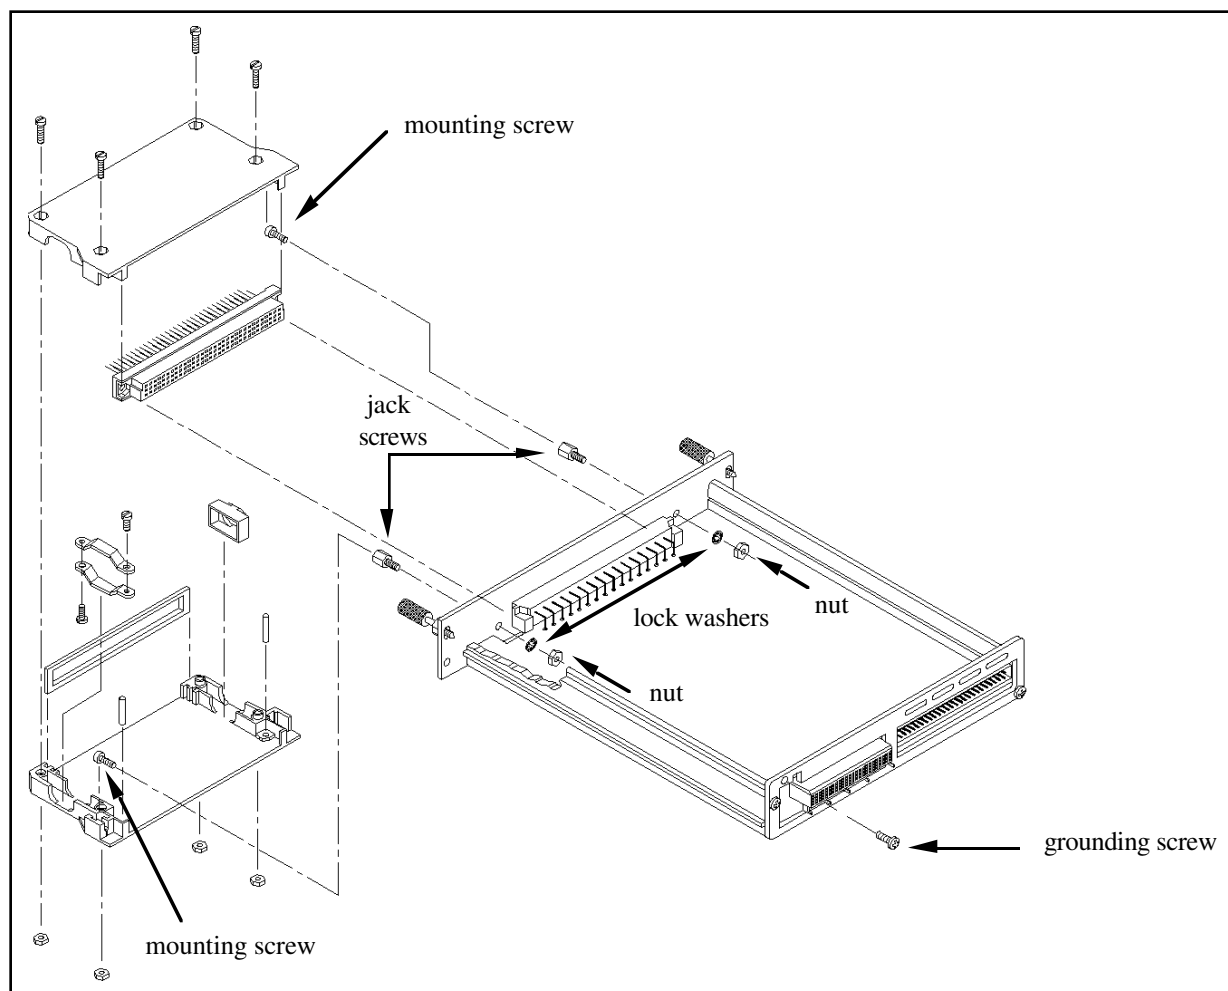

Figure 2-10. Assembling and Mounting the Connector and Shell
4. Refer to Figure 2-10, *Assembling and Mounting the Connector and Shell*.
6. Place one jack screw as indicated in Figure 2-10.